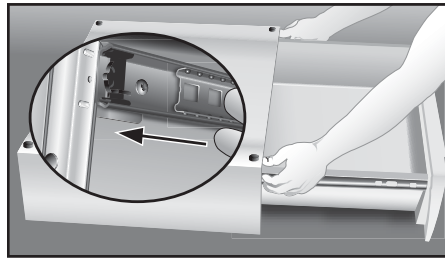

Figure 10
12. **SLIDE BALL BEARING RAILS TO FRONT** (see Figure 10).